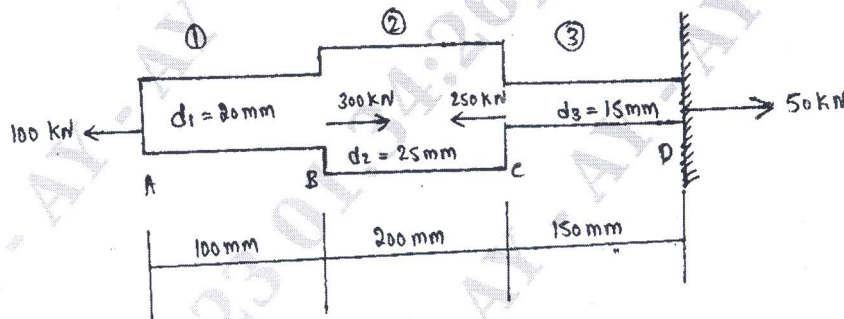

Fig. Q2 (b)
- b. Determine the stresses in various segments of the circular bar shown in Fig. Q2 (b) and also find out its total elongation assuming Young's modulus of steel to be 200 GPa.